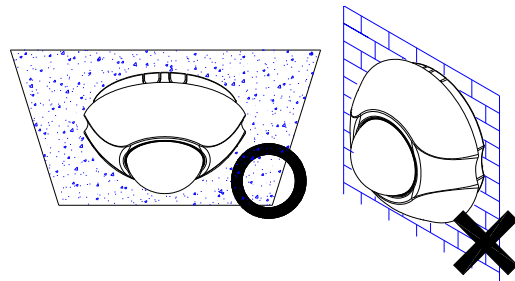

FIGURE 1
- The unit is designed to be affixed on the ceiling. (FIGURE 1)